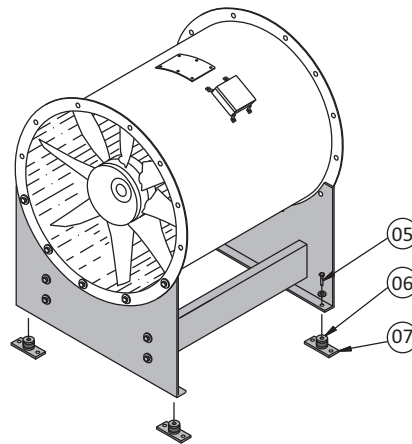
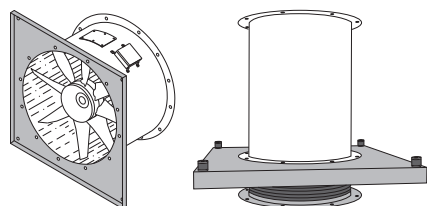

Figure 3. ACN mounted on horizontal support frame with anti-vibration dampers
Figure 4. ACN with vertical support frame (left) and with flexible connection and anti-vibration dampers
Anti-vibration dampers with base plates (accessories) prevent spread of vibrations from the fans to the surroundings. See fig. 3, items 06 and 07 and fig. 4. With the dampers the natural system frequency is kept below 10 Hz. The damping is at least 80% at 1500 RPM.
Flexible connections (accessory) may be fitted in the ducts before and after the fans. See for example fig. 4.